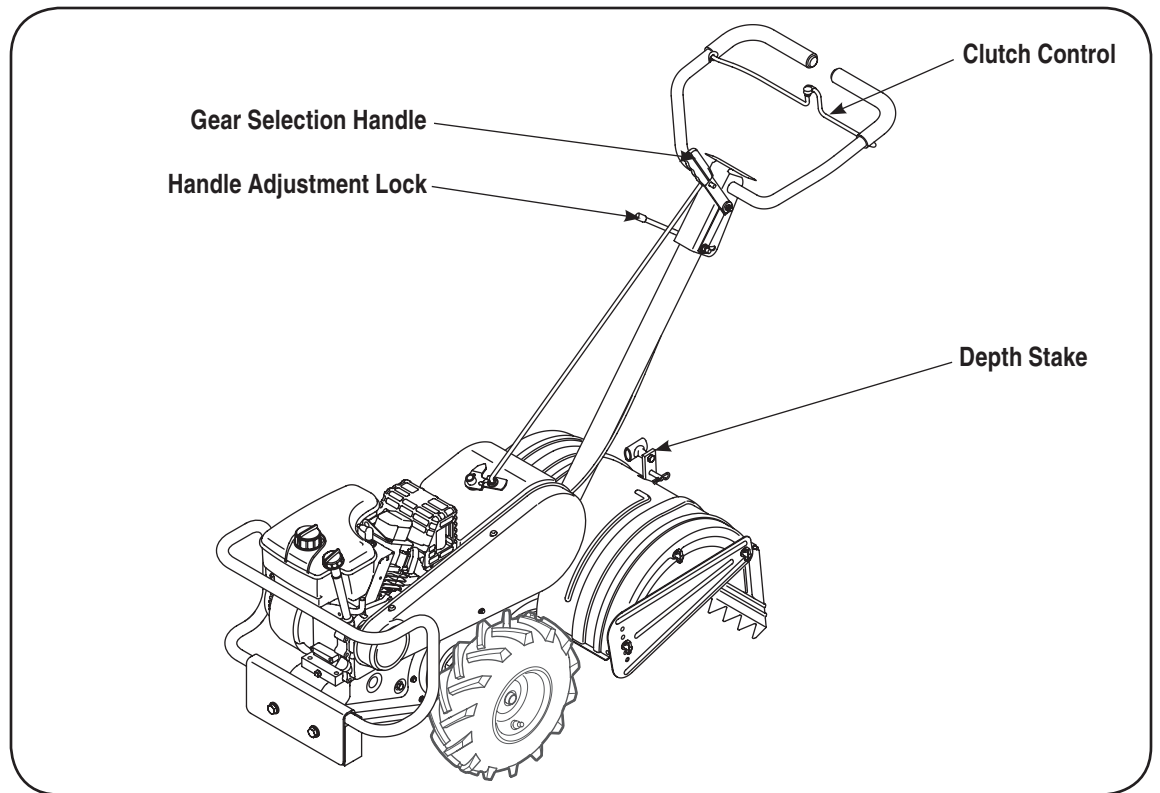

Figure 6
- Insert the longer end of the control rod through the hole in the gear selector handle and secure with hairpin clip. See Figure 6.
See Figure 6.